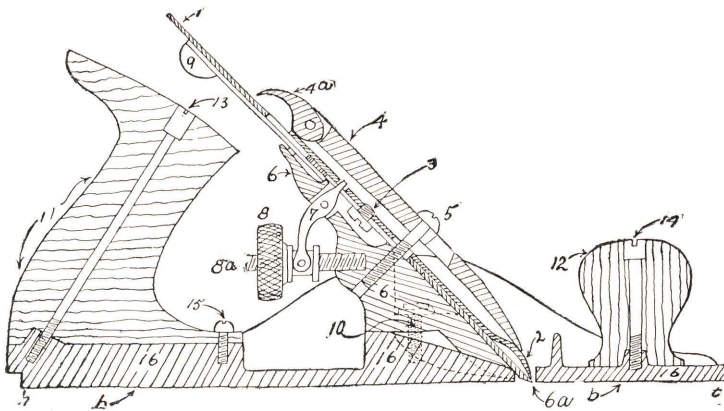

Fig. 6. Section of iron plane.
The adjustment of the modern plane can be understood by a careful study of Fig. 6 and by comparing it with the plane itself. The *cutter iron* or *bit* (1) and the *cap iron* (2) are the essentials of the tool. It is upon their condition and adjustment that the efficiency of the